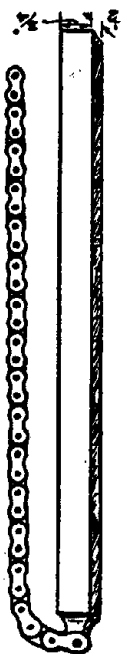

Fig. 25.—CHAINBAR FOR USE WHEN REMOVING GEARBOX SPROCKET NUT.
- (9) Rear chain, the mainshaft can now be withdrawn from the clutch end of the gearbox. Using a chain bar, which is simple to make (Fig. 25), with a short length of $\frac{5}{8}$ in. \times $\frac{3}{8}$ in. chain attached, drape the chain round the sprocket, with the bar propped against the frame. Should it be inconvenient to make a tool of this kind, leave the chain attached and apply pressure on the brake pedal to release the sprocket-fixing nut after turning up the tab washer. This nut is usually very tight, as it must be, and for this reason the use of a chain bar is desirable.
- (10) The sprocket spacing collars, recording the position in which they are fitted.
- (11) The main driving gear, which can be tapped into the gearbox shell.
- (12) The main bearing after extracting the circlip, washer and oil seal.
- (13) The mainshaft ball-bearing in the kick-starter case, which is also retained by a circlip.
The nut securing rear-chain sprocket is firmly tightened, as it must be, therefore some difficulty may exist in holding the sprocket during this process. The chain bar (Fig. 25) is the tool for this job, fitted on the sprocket, with the bar propped against the frame after disconnecting the rear chain.